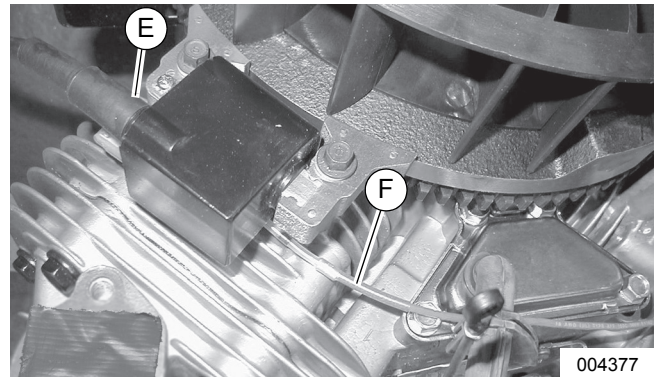

Figure 13-11. Ignition Coils
3. See **Figure 13-11**. Assemble ignition coils on engine. Mounting holes in coil are slotted. Push coil as far back as possible and tighten one screw to hold coil in place.